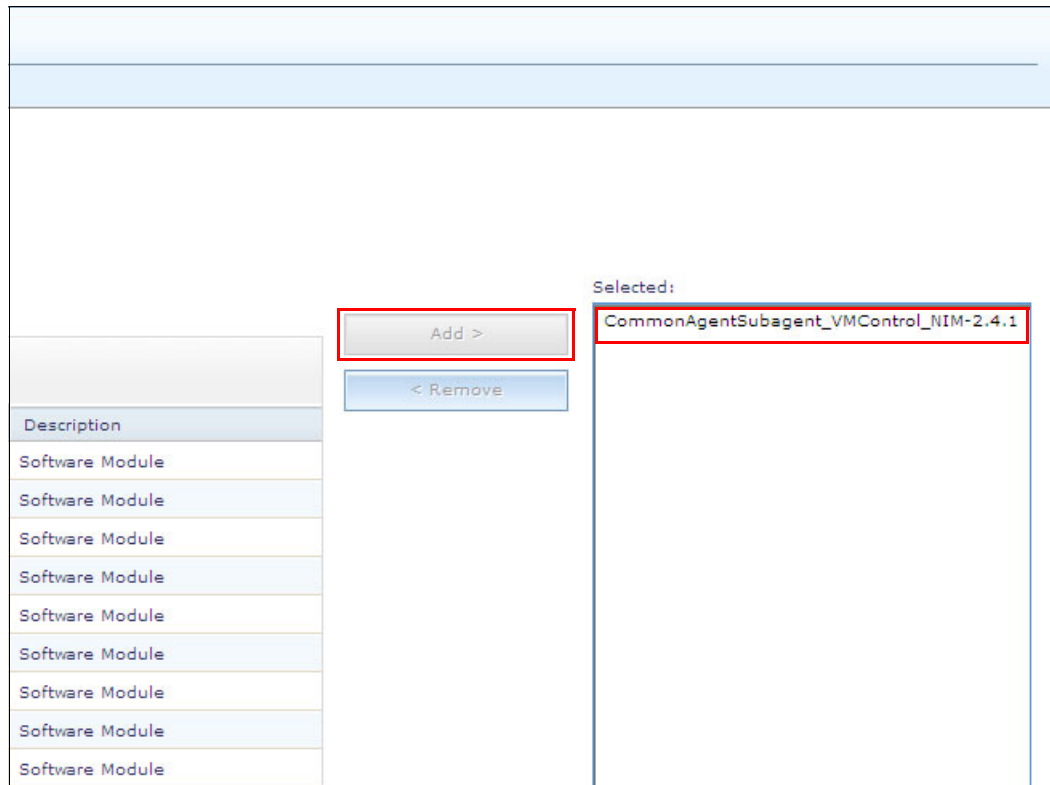

Figure 10-50 Agent Installation window
4. Click **Add** as shown in Figure 10-50.